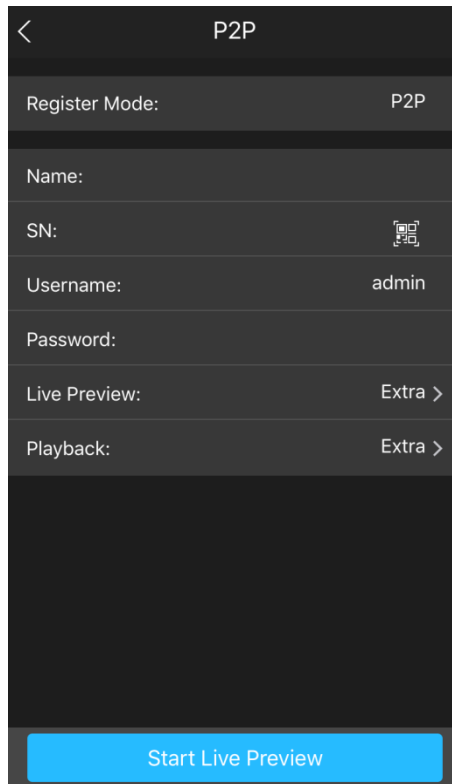

Figure 5-26
- The **P2P** interface is displayed. See Figure 5-26.